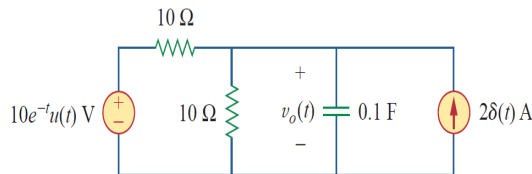

Fig. 5
b) Find $V_0(t)$ in the circuit of Fig.5. Assume $V(0) = 5 \text{ V}$.